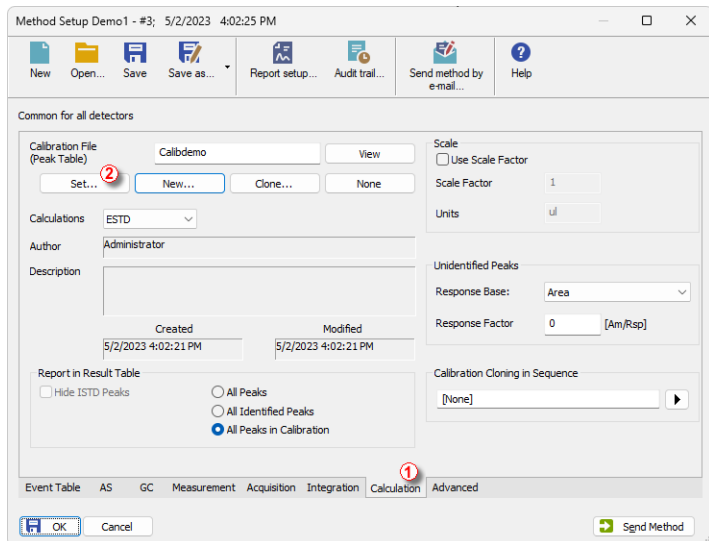

Fig. 18: Method Setup - the Calculation tab
- Return to the *Instrument* window and use the *Method - Calculation...* command to open the *Method Setup* dialog directly on the *Calculation* tab  as shown on **Fig. 18** on pg. 27. Alternatively, open the *Method Setup* by clicking on the icon  and then move to the *Calculation* tab.